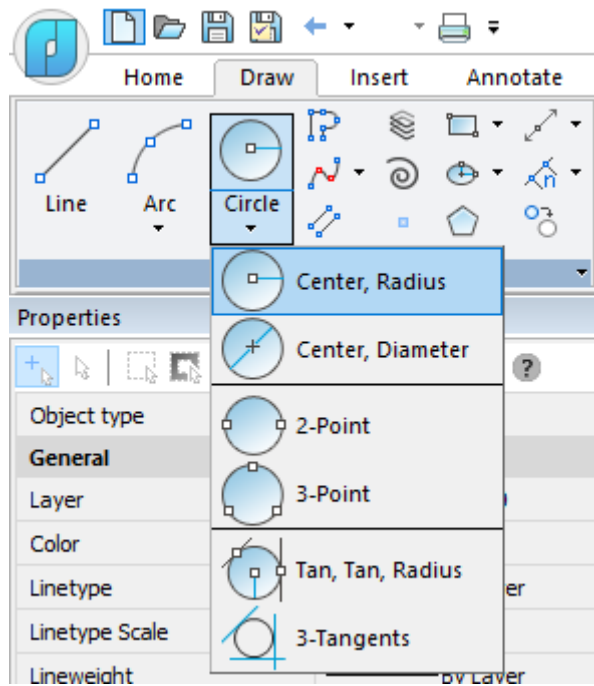

Fig. 6. Circle by Center and Radius
1.7. Click on the **Circle – Center, Radius** (fig. 6):